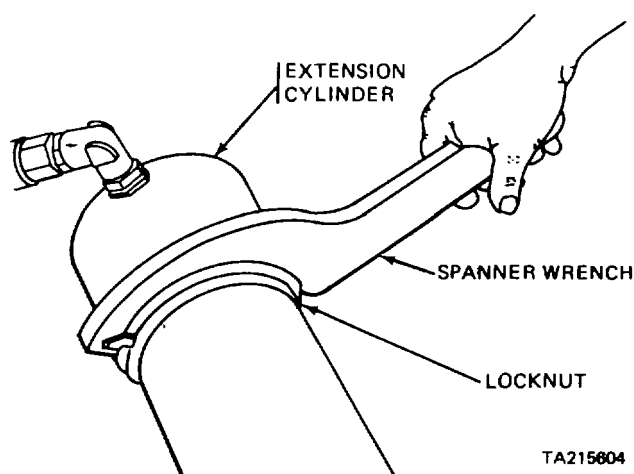

Figure 3-66. Extension Cylinder-Bearing Locknut Removal Using Spanner Wrench
(4) Using spanner wrench, special tool (48, fig. 1-2) (fig. 3-66), loosen locknut (10) and remove cap (13), packing (12), ring (11), and locknut (10).
- (7) Safety tie locknut (19) to retainer (30) with lockwire.
- (8) Install lubrication fitting (2) in rod end bearing assembly (1). Screw locknut (37) on rod end bearing assembly (1) until it bottoms.
- (9) Place tab washer (36) on rod end with tab side away from locknut (37).
- (10) Screw rod end of rod end bearing assembly (1) into piston rod until there are approximately five threads showing between locknut (37) and piston rod. Aline slot of piston rod with groove in rod end of bearing assembly (1), seat tab washer (36), and tighten locknut (37).
- (11) Safety tie tab washer (36) to locknut (37) with lockwire after installing cylinder on loader and final adjustments are completed.
- (12) Assemble bearing (7), with pin (point B) alined with point A of retainer (30) (vertical position when installed on loader) and ball loading slots toward rod end of cylinder, to cylinder (6). Insert side of bearing must rest against shoulder in middle of cylinder (6).
- (13) Assemble locknut (8), small diameter side first, to cylinder (6) and, using spanner wrench, special tool (46, fig. 1-2) (fig. 3-66) tighten locknut (8) to 500 ft-lb torque minimum,
- to align slot in locknut (8) with slot in cylinder (6).
- (14) Insert lock (9), small tab first, in slot of cylinder (6). Safety tie lock (9) to locknut (8) with lockwire.
- (15) Screw locknut (10) on end of cylinder (6) until locknut bottoms.